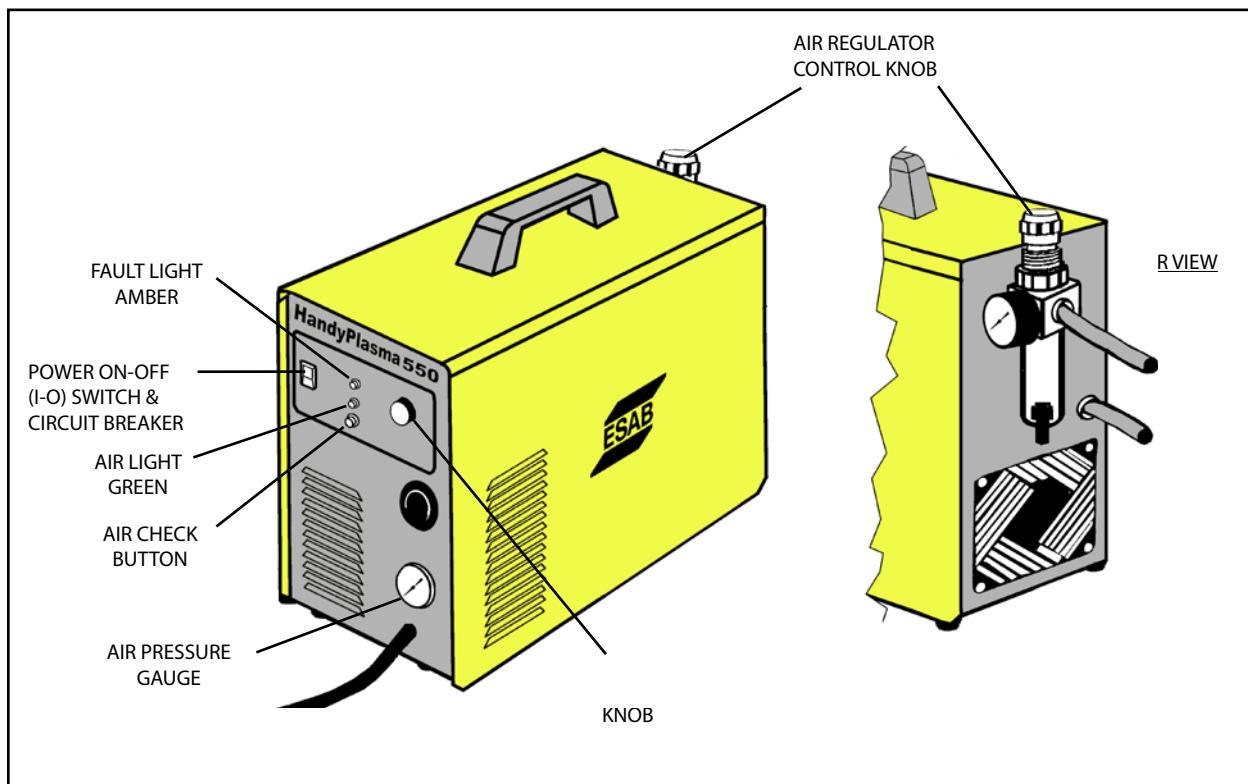

Figure 4-1. HandyPlasma® 550 Controls
4.2 HANDYPLASMA® 550 CONTROLS (FIGURE 4-1)